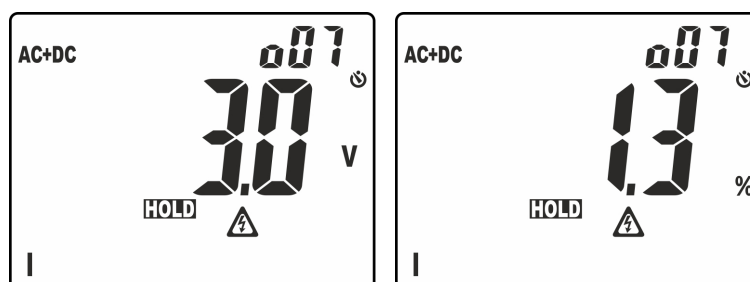

Fig. 4: Display of ordering of amplitude of harmonic analysis
- Long pressing of the key (at least 2s) in order to activate the **H2O** (Higher Harmonic Ordering) ordering function of the amplitude of harmonics. In these conditions, function "HOLD" is automatically activated and symbol "o" appears next to the displayed harmonic order to indicate that the Ordering function is activated. The bargraph is disabled and the instrument shows the value of amplitude of all the harmonics between the DC value and the 25th, fundamental harmonic excluded, in a **decreasing order** starting from the harmonic with the highest amplitude, as shown in Fig. 4
In the example in Fig. 4, the harmonic with the highest value corresponds to the 7th. Press key  $\blacktriangle$  to observe the amplitude of the remaining harmonics and press key **H/H%/H $\bar{\square}$**  again to switch between display in absolute and percentage values. Turn the rotary switch to exit the function.